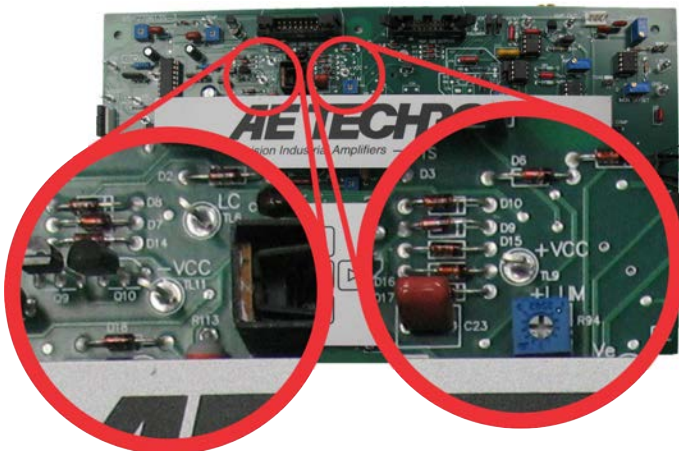

Figure 7.1 – +Vcc and –Vcc Point Locations
5. You can verify the capacitor discharge by connecting a voltmeter across +Vcc and –Vcc test points on the main board (see **Figure 7.1**). Verify a reading of less than 5 volts before proceeding.